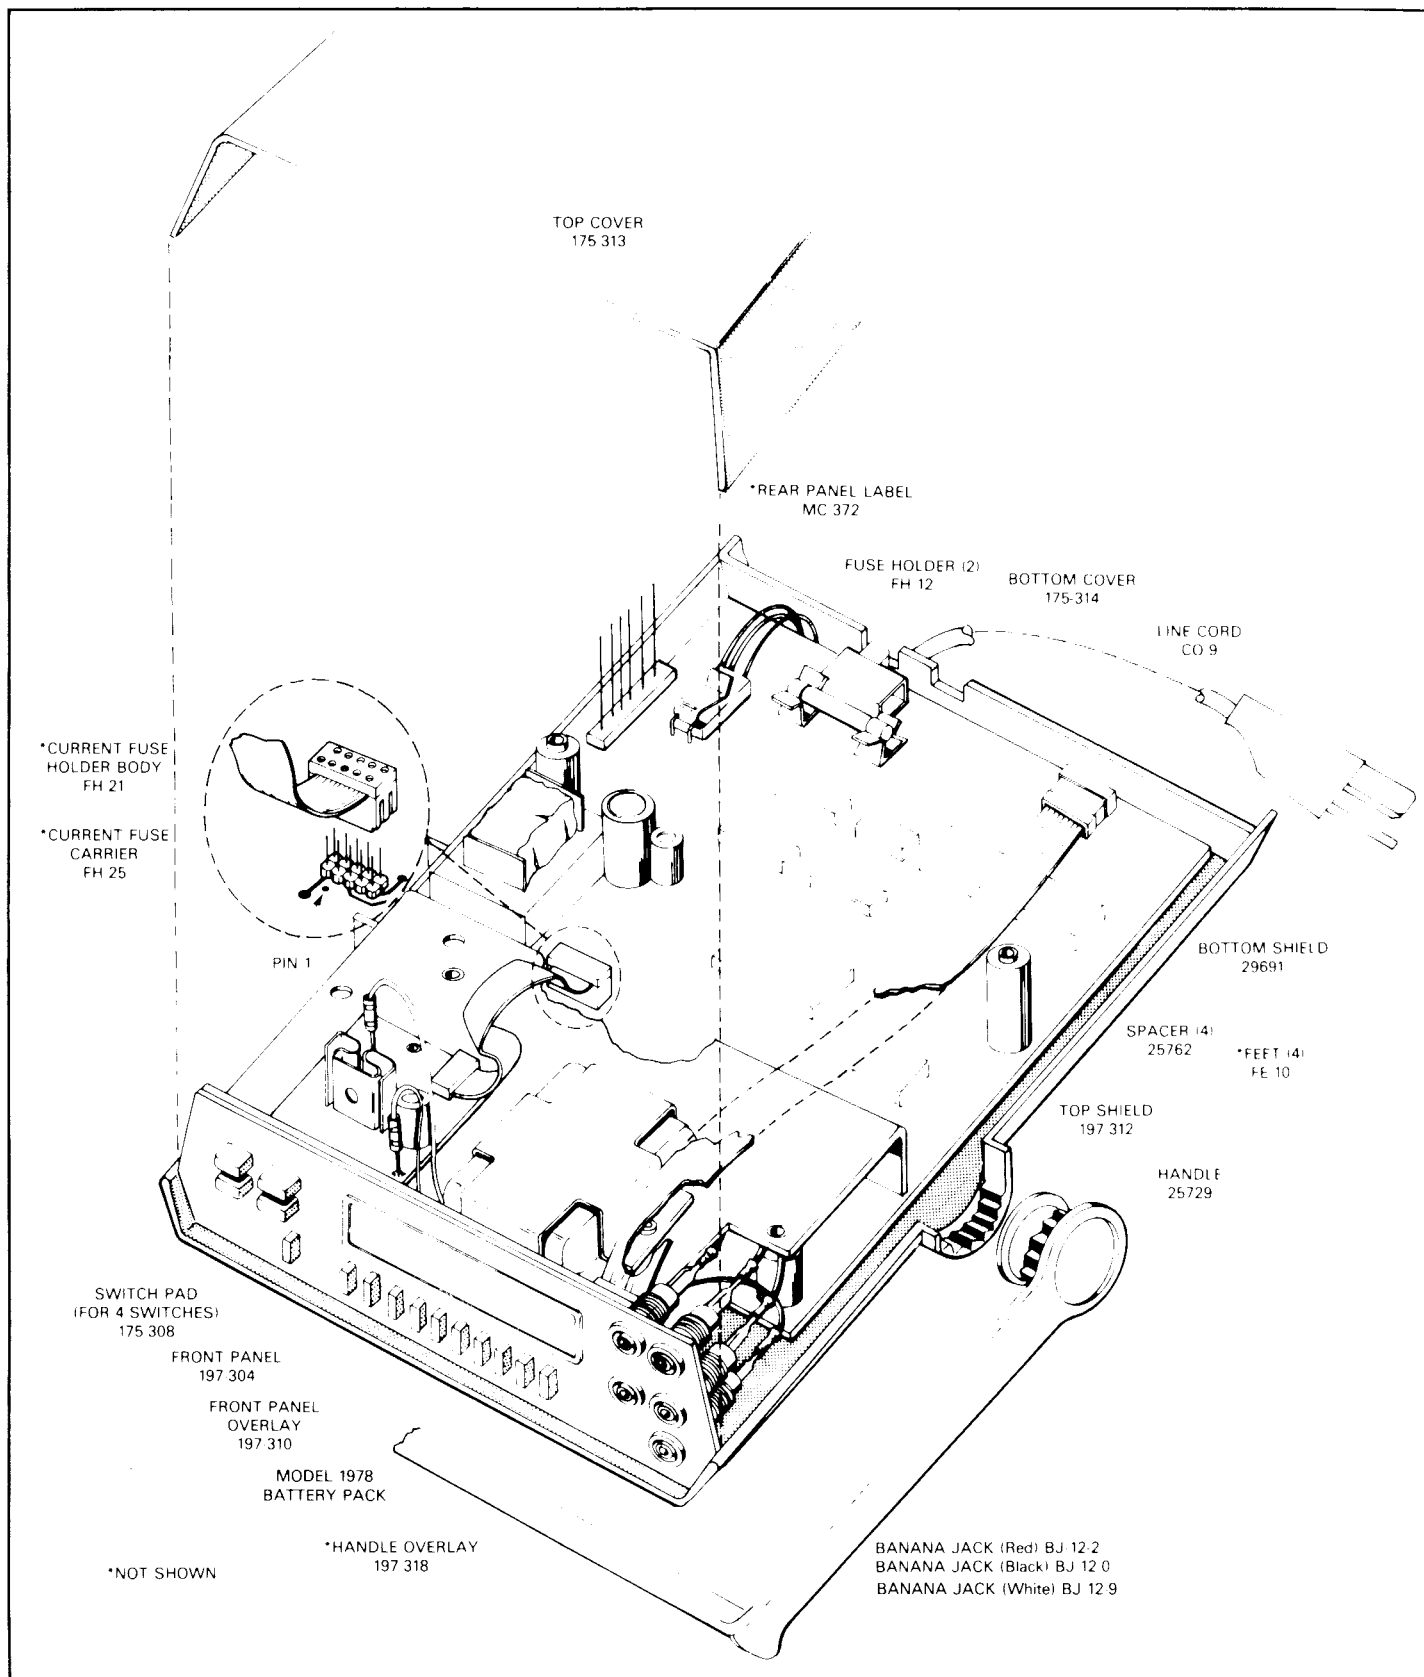

Figure 5-1. Model 197 Miscellaneous Parts
Refer to Figure 5-1 and perform the following procedure to install the battery pack:
3. Position the battery board as shown in Figure 5-1 and secure it to the shield using the two supplied screws. The screws are positioned through the shield into the battery board fasteners.
7. Connect the ribbon cable from the battery board to P1009 on the mother board. Make sure pin 1 on the cable connects to pin 1 of P1009. Refer to the detailed drawing of Figure 5-1.
The line fuse is located internally in the Model 197. For exact fuse location refer to Figure 5-1. To replace the fuse proceed as follows: